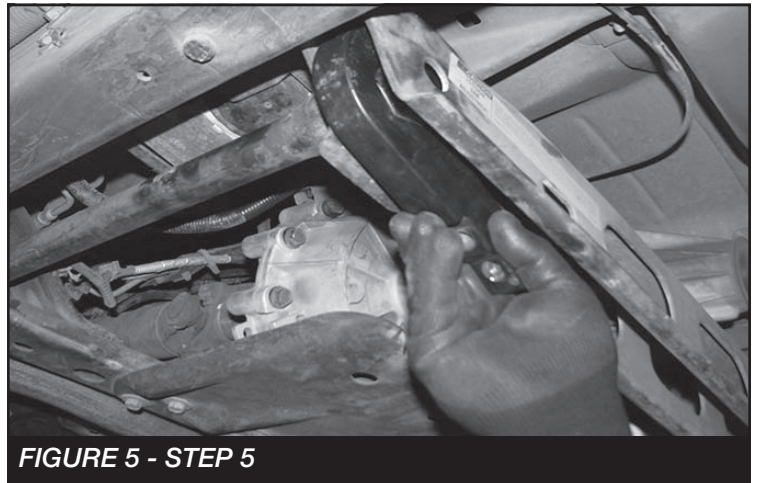

FIGURE 5 - STEP 5
5. Install the new torsion key (FT20659BK) into the original position. **SEE FIGURE 5**